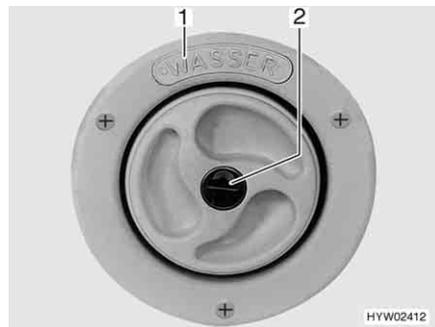
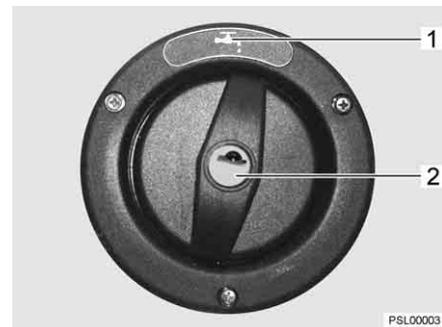

Fig. 168 Cap for the drinking water filler neck
Fig. 169 Cap for the drinking water filler neck (alternative)
The drinking water filler neck is labelled by the word "WASSER" (water) (Fig. 168,1) or marked by the symbol "☞" (Fig. 169,1). The cap is open and closed using the key for the external flap locks.
- Insert key into locking cylinder (Fig. 168,2 or Fig. 169,2) and turn a quarter turn in an anticlockwise direction.